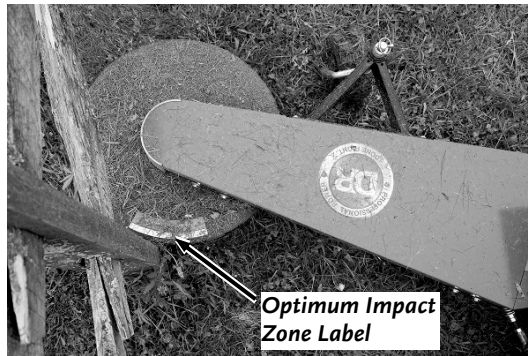

Figure 29
- Approach obstacles (fence posts etc) so the impact zone will be within the area of the Optimum Impact Zone Label (**Figure 29**). This will ensure the best spring action and trimming coverage around the obstacle.